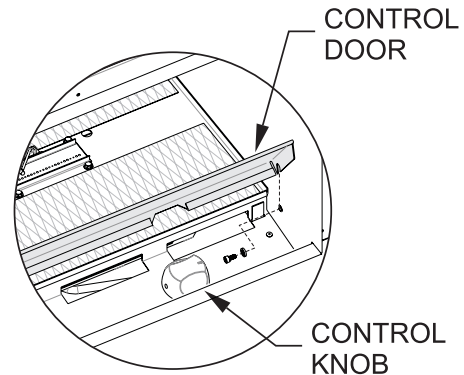

Figure 17
8. To connect the gas line and install the electrical connection, the burner assembly must be tilted upward in the fireplace. To lift the burner assembly, remove the control door by opening the door and lifting it upward to disengage the slots on the door from the pivot pins. Remove the two control door pivot bolts and washers. See Figure 17.